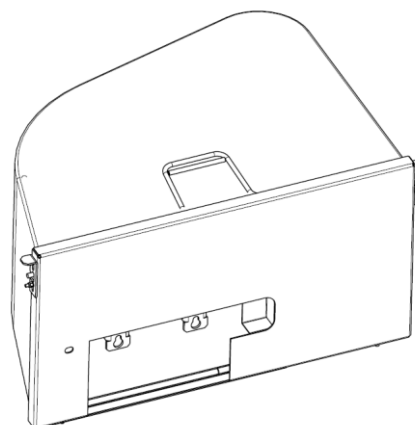

FIG 3
- Grass catcher assembly (WY36-NGC): 100L, see FIG 3